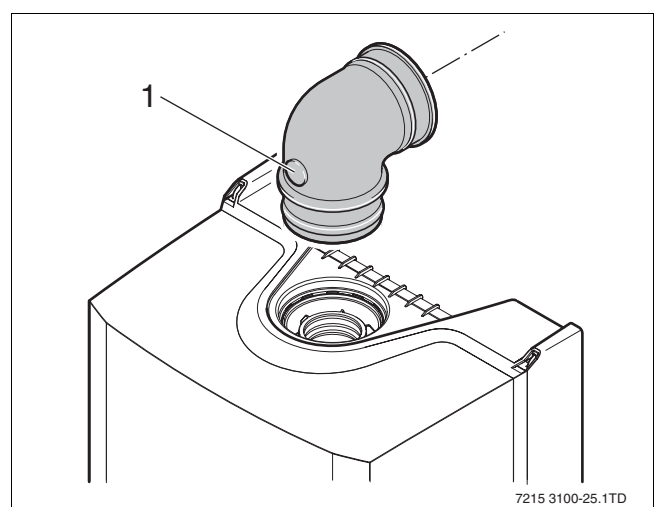

Fig. 25 Horizontal flue turret with flue gas testing point
- Push the assembly through the wall and slide the turret onto the flue connector. Refer to figure 25. Ensure that the turret is fully engaged into the socket on the boiler.